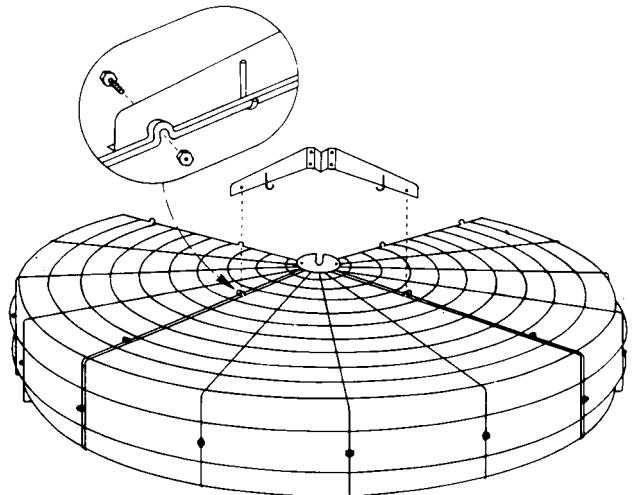

Figure 5 - Assemble Clamp Brace
3. With three sections assembled, place  $\frac{1}{2}$  of guard clamp brace on top section and bolt to top of guard. (See Figure 5)